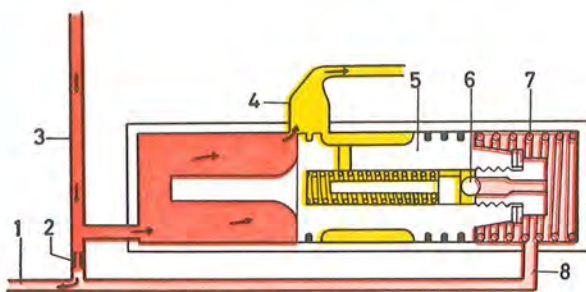

Fig. 6-37. Control valve, normal position
When the pump starts functioning, the valve (5, Fig. 6-37) maintains the valve pressed to the left of the spring (7). The oil supplied by the pump passes through the delivery channel (3) via the check valve
(2) out into the delivery line (1) and from there to the steering box. The space to the right of the control valve is linked-up with the delivery line (1) by means of the link channel (8) and has, therefore, the same pressure.
The check valve's (2) function is to ensure that the pressure on the left-hand side of the control valve piston is higher than that in the line and also to the right of the piston. When the spring pressure is overcome, the piston is, therefore, displaced to the right. And when the speed is sufficiently high in relation to the counterpressure, the piston has been displaced so much that the surplus oil can flow back to the inlet side of the pump, see Fig. 6-37. Since the pump should deliver a quantity smaller than the maximum capacity, this valve adjustment can be called normal.